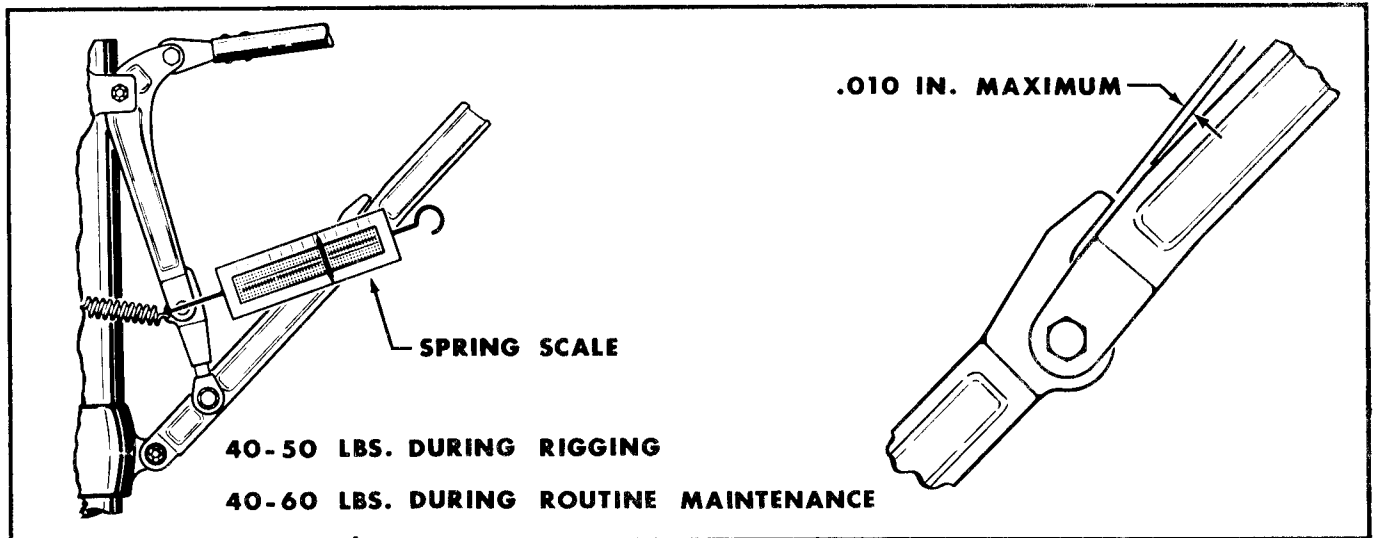

Figure 2-58. Main Landing Gear Downlock Requirements
3. Check for clearance between upper end of lower side link and lower end of upper side link as illustrated in figure 2-58. Zero clearance is desired, maximum clearance is .010 inch.